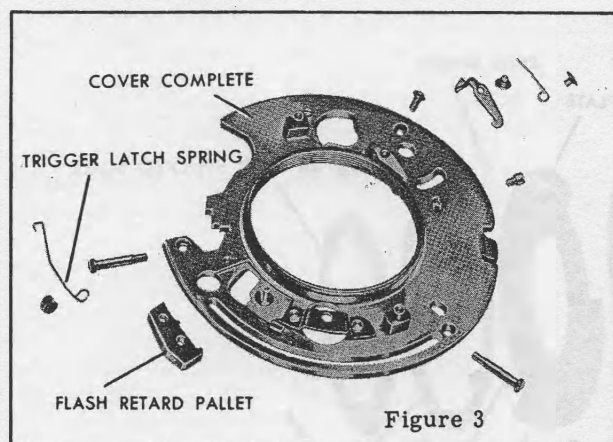
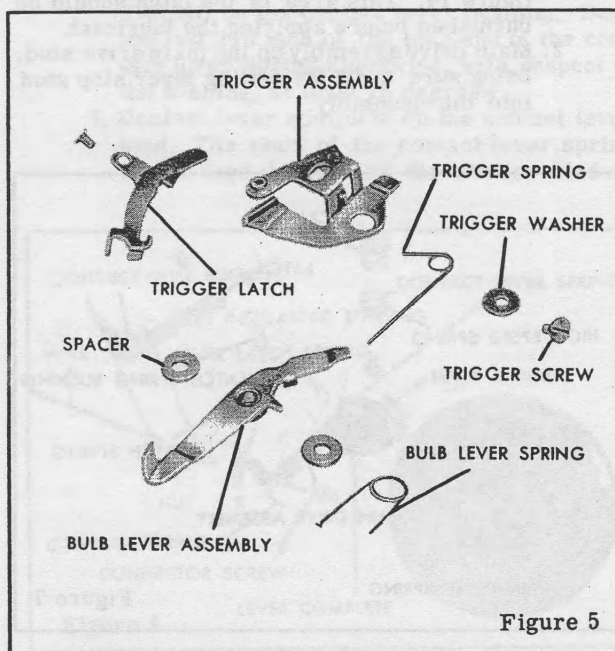
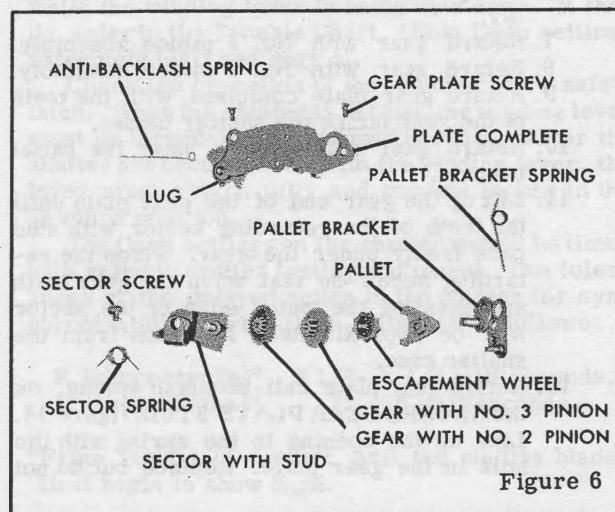

Figure 3
Figure 5
Figure 6
position. Be sure the projecting lug on the BULB LEVER ASSEMBLY, figure 5, the studs on the retarding SECTOR WITH STUD, figure 6, and the PALLET BRACKET with stud assembly are resting against the inside edge of the speed control ring and are not underneath the ring.
CAUTION: Do not touch the **TRIGGER LATCH**, figure 5, as it may release the winding gear spring tension.
Trip the shutter and lightly hold the winding lever down around the central collar on the cover. As the shutter is tripped, the end of the latch should fall into the slot on the cover. If it does not, add more tension on the **TRIGGER LATCH SPRING**, figure 3. Check for a bind between the trigger latch and the **TRIGGER ASSEMBLY**, figure 5, at the point of attachment. The winding lever should contact the trigger latch; push the latch out of the slot in the cover and open the shutter blades. After the shutter has been tripped, the latch should return to a position where it is resting on the ledge just above the small slot in the cover.
4. **TRIGGER LATCH SPRING**, figure 3.
5. **TRIGGER LATCH**, figure 5.
7. **FLASH RETARD PALLET**, figure 3.
9. **COVER COMPLETE**, figure 3.
6. TRIGGER SCREW, figure 5, TRIGGER SPRING, TRIGGER WASHER.
5. Retard GEAR PLATE SCREW, figure 6, near the retarding SECTOR WITH STUD.
tighten the remaining gear plate screw. The spring should be parallel to the shutter case. Holding the spring in this position, tighten the gear plate screw. Hook the end of the anti-backlash spring on the retard plate gear LUG, figure 6.